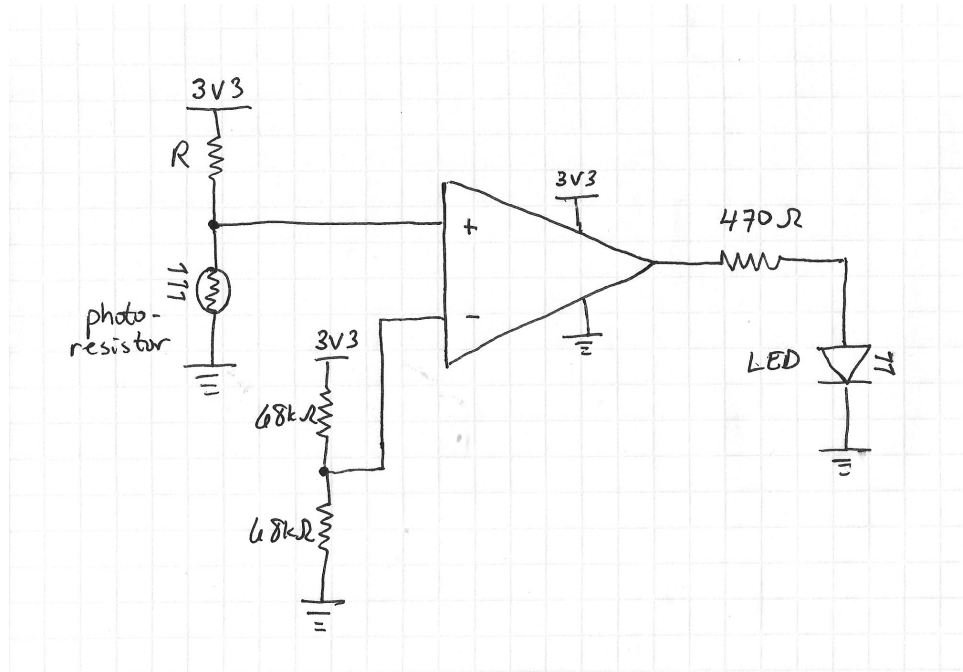

Figure 2: Night light circuit.
Consider the circuit shown in Figure 2. Conceptually, what will happen when light shines on the photoresistor? Will the output voltage of the voltage divider go up or down? How will the comparator respond?
7. Complete the circuit shown in Figure 2. The pinout of the op-amp can be found on the datasheet. Note that the 8-pin chip that you are using actually has two independent op-amps in it - pick one and go with it. Walk through the functionality of the comparator to prove to yourself that the LED on the output will light when the photoresistor is dark and vice versa.
2. Your choice for R in Figure 2.